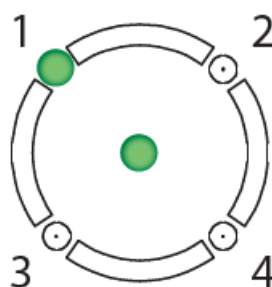

Fig. 7
- Once connected to the Base Station, the LED in the middle of the circle on the transceiver front illuminates to indicate it is turned on. One of the outer LEDs (numbered 1 to around the circle also turns on (depending on which port the 3 4 Transceiver is connected to on Fig. 7 the Base Station, see Fig. 7). This outer LED will initially flash as the Transceiver scans for available channels before turning solid green once a channel is found (on the Base Station HOME screen, the "Transceivers" indicator is yellow while scanning before turning green).
- LEDs (1 – 4) on the RT7000 Front (Fig. 7) correspond to the Remote XCVR port number on the Base Station (Table 1 label).